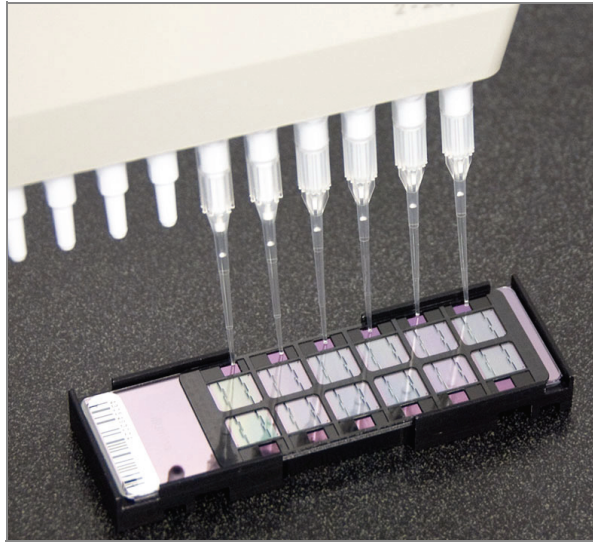

Figure 43 Loading Samples (12x1 HD BeadChip)
2. Load samples A1–F1 from the MSA3 plate into the left side BeadChip (Figure 43) inlet ports A1–F1 (every other inlet port on the left side of the BeadChip).
2. Load samples A1–F1 from the MSA3 plate into the left side of the BeadChip (Figure 43).